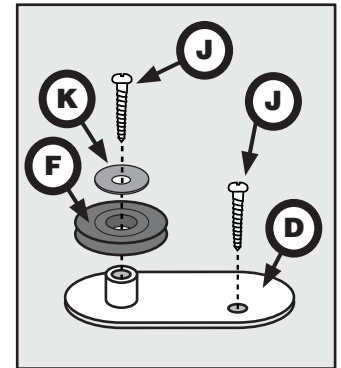

Figure 4
- 7** Assemble left rear wire connector as shown in **Figure 4** and fasten to board. Fasten screws securely. Rear pulleys are designed to be tight fitting and do not spin freely.